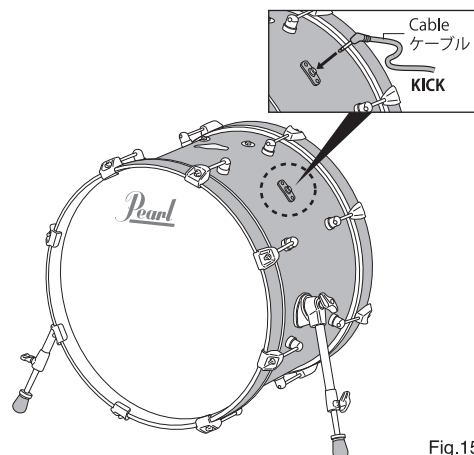

Fig.15
- Connect the Bass Drum to the Sound Module by using the cable labeled as **KICK**. Insert the cable-end into the jack located on the side of the drum as shown (Fig.15).
ケーブル **KICK** をジャックに接続します (Fig.15)。